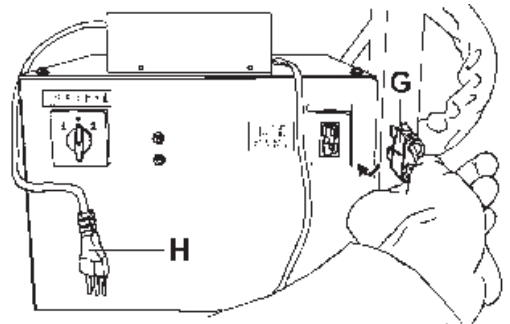

Fig.4
- Connect the electronic battery charger "3" (Fig.1) to the slab carrying trolley by means of the plug "G" (Fig.4) and subsequently connect it to the mains by means of the plug "H".